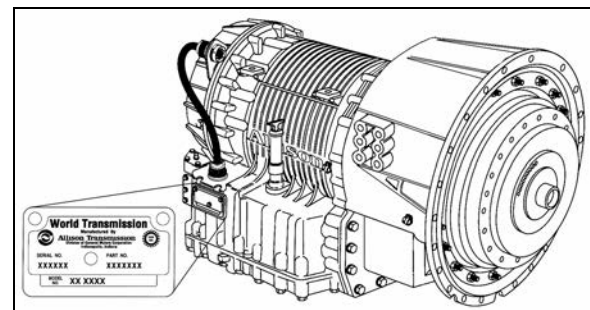

FIGURE 2 : WORLD TRANSMISSION
The transmission identification plate is located on the fluid level dipstick side of the transmission (WT) or on transmission, on the vehicle R.H. side (ZF) (Fig. 2 & 3). The identification plate shows the transmission serial number, part number (assembly number), and model number. Use all three numbers when ordering parts.